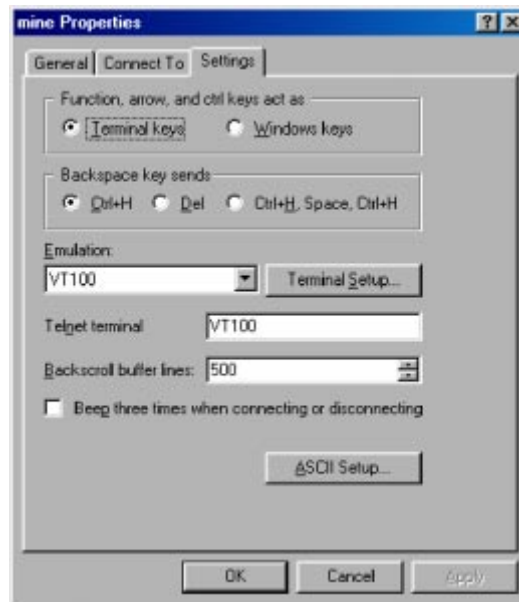

Figure 16. Terminal keys configuration
8. Configure the settings for *Function, arrow and ctrl keys act as* to *Terminal keys* as shown in figure 16, then click **OK**.